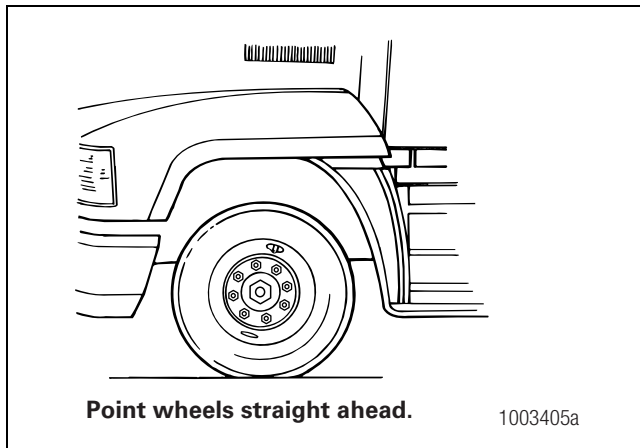

Figure 5.22
1. Turn the vehicle wheels straight ahead. Figure 5.22.